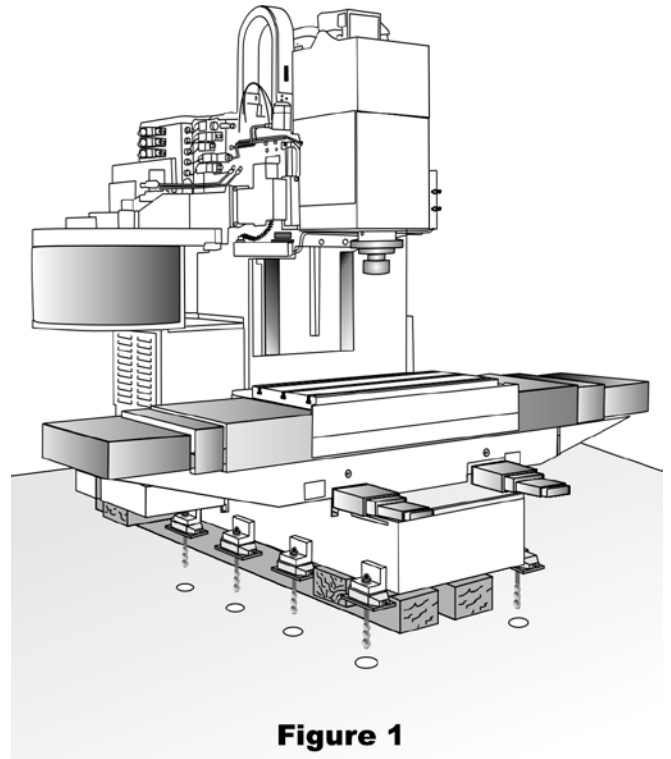

Figure 1
3. Temporarily support the machine using steel blocks and/or timbers at a height high enough to install the DK Mounts and anchors to the machine base. See Figure 1.